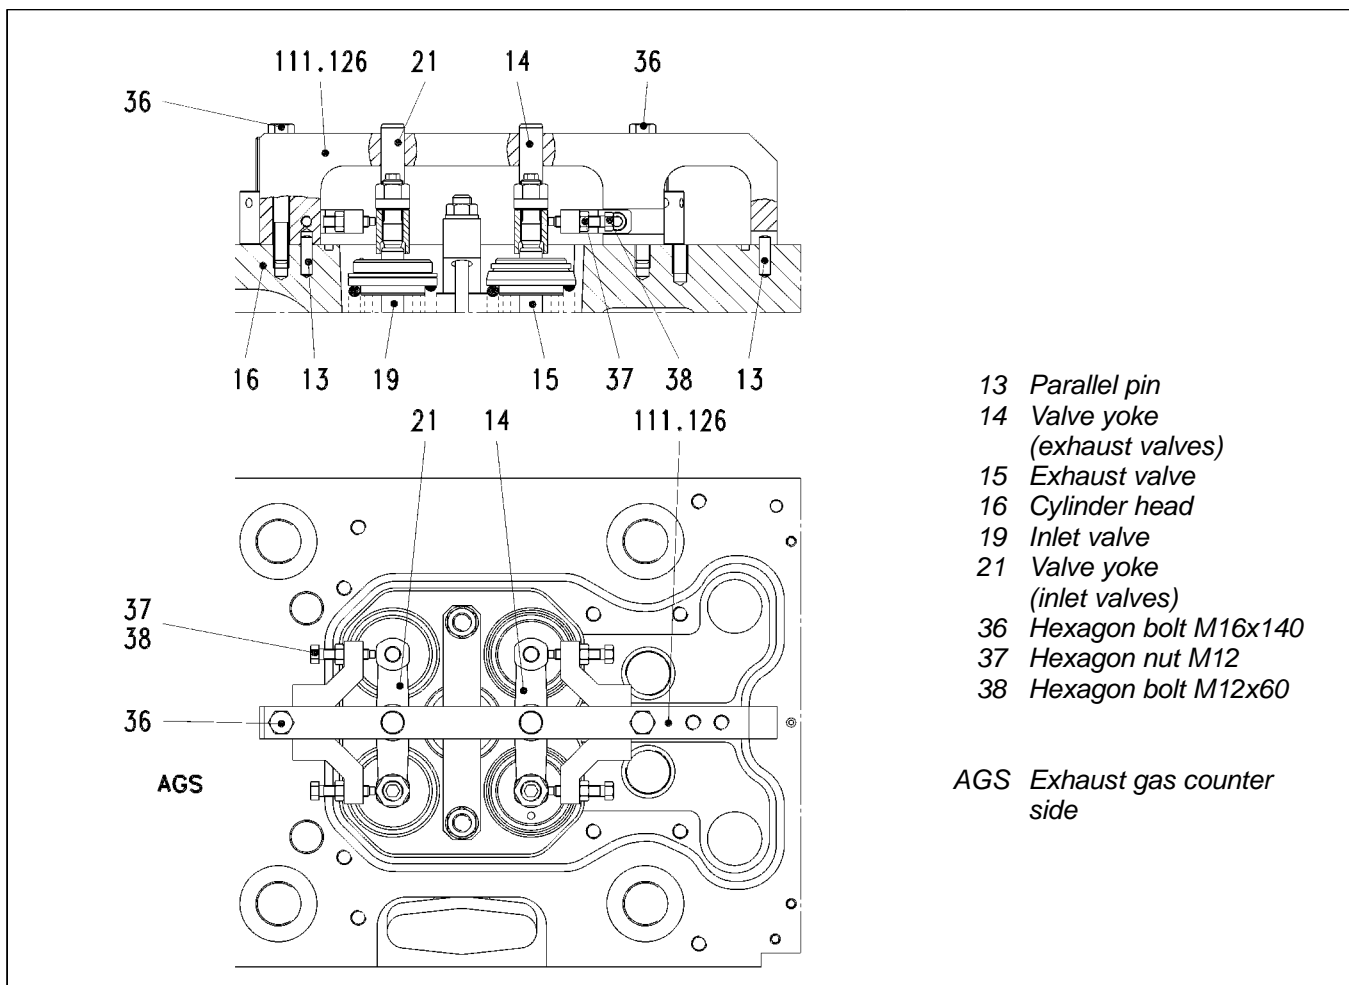

Figure 3. Fixing the valve yokes to loosen or tighten the nuts on the setting screws
5. Attach the setting device (111.126) to the cylinder head (16), taking due note of the centring bores and/or centring groove for parallel pins (13) and valve yokes (refer to Figure 3).
6. Turn the hexagon bolts (38) until they contact the valve yokes. Secure the hexagon bolts by means of the hexagon nuts (37).
7. Loosen the nuts (17) on the setting screws (18) and screw them off, clean the threads and contact faces.
8. Turn the setting screws (18) back.